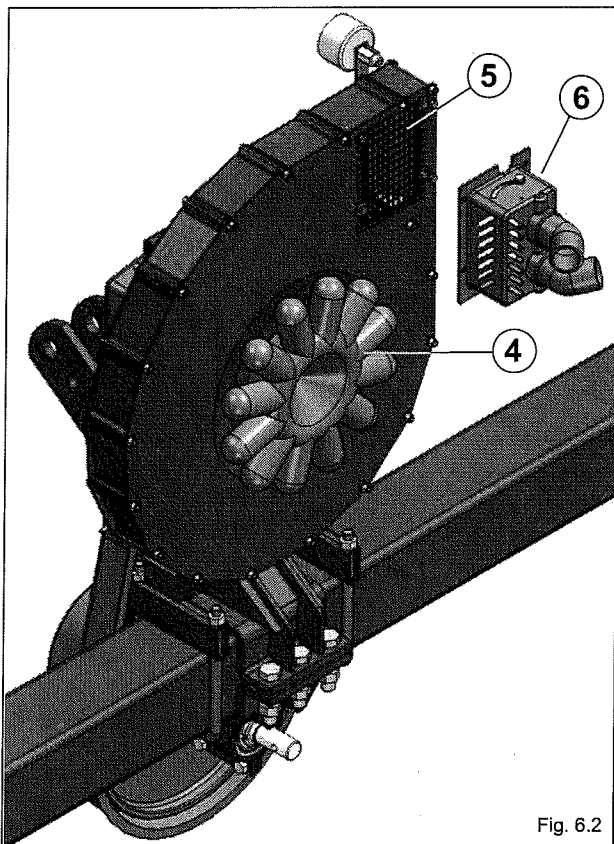

Fig. 6.2
- A bolt transmission 7 (Fig.6.2) consisting of a driving pulley 8 with connection to the PTO and of a crankcase 9.